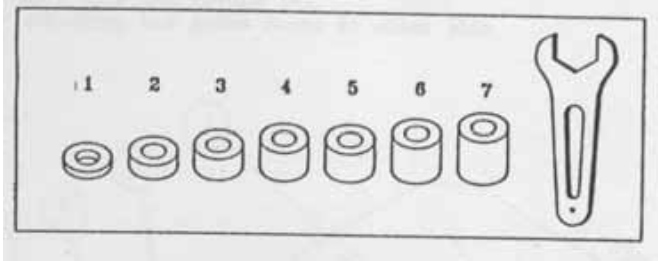

Fig. 3 Accessories in Parts Box—Spacing Ring, Wrenches
C. The thickness of spacing ring that is the main accessory in parts box has 5mm, 10mm, 20mm, 25mm, and 30mm. The different spacing rings can be replaced according to the different thickness of working pieces shown as Fig. 3. Then the thickness of spacing ring is installed well, tighten nut with a wrench.